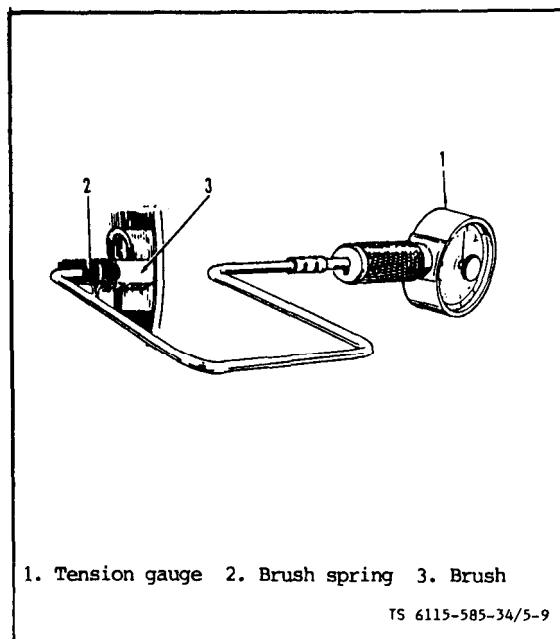

Figure 5-9. Testing Brush Spring Tension
(3) Testing Field Coils. See Operator and Organizational Maintenance Manual.
(4) Testing Brushes. See Operator and Organizational Maintenance Manual.
(5) Testing Brush Springs. Style I Starter. (see figure 5-9).